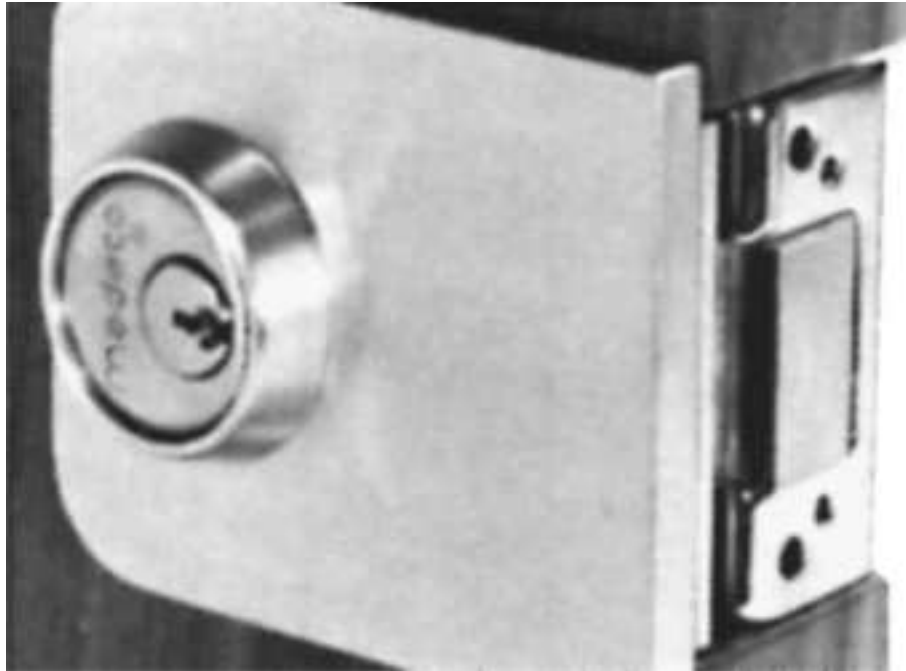

**Figure 13.40** Tightening mounting screws.
12. Turn the mounting screws finger tight; then give them approximately one-half turn more (Fig. 13.40 ).